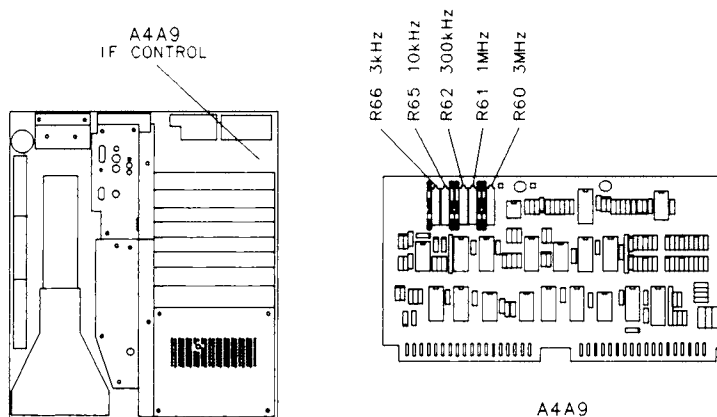

Figure 3-45. Location of 3 dB Bandwidth Adjustments
7. Adjust A4A9R60 3 MHz for a **MARKER Δ** indication of $-3.00 \text{ dB} \pm 0.05 \text{ dB}$. See Figure 3-45 for location of adjustment.